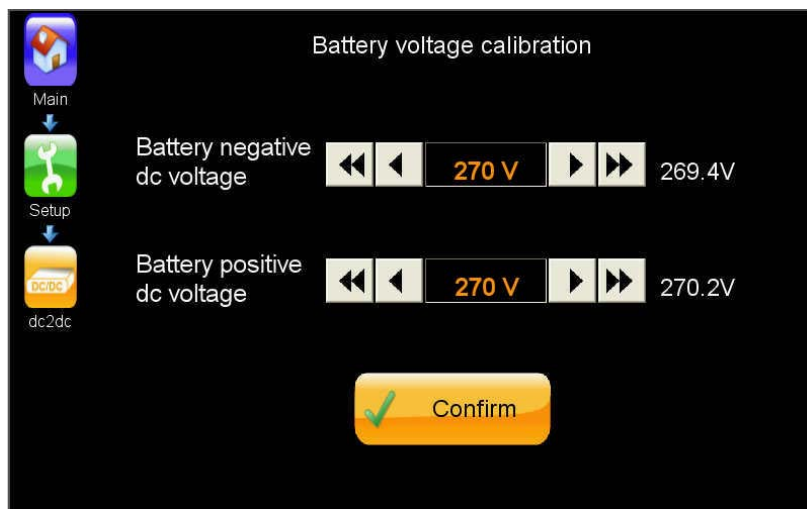

Figure 25: The "Battery voltage calibration" screen
3. Compare your measured value to the number to the right of the screen, which is the Centric's measurement. If your measured value differs from the Centric's measured value, enter your measured value into the field labeled "negative dc voltage" (see Figure 25).
3. Compare your measured value to the number to the right of the screen, which is the Centric's measurement. If your measured value differs from the Centric's measured value, enter your measured value into the field labeled “negative dc voltage” (see Figure 25).
2. Compare your measured value to the number to the right of the screen, which is the Centric's measurement. If your measured value differs from the Centric's measured value, enter your measured value into the field labeled "battery negative dc voltage" (see Figure 25).
4. Compare your measured value to the number to the right of the screen, which is the Centric's measurement. If your measured value differs from the Centric's measured value, enter your measured value into the field labeled "Charger negative" (see Figure 25).